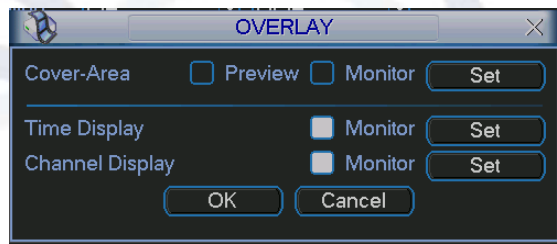

Figure 5-21
- **Overlay:** Click overlay button, you will see the interface shown in Figure 5-21.